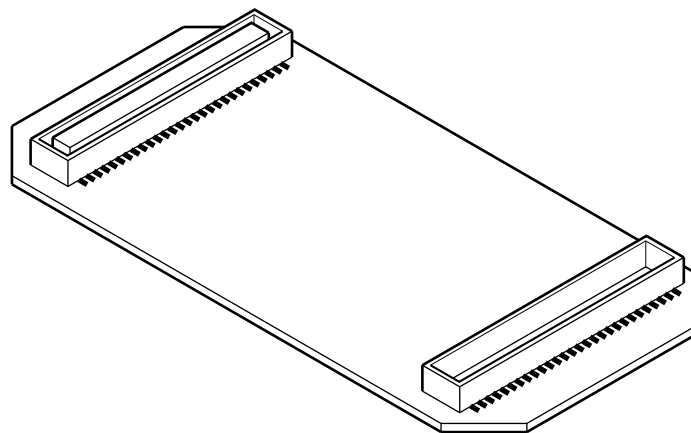

Figure 3: Extension Card
5. Extension Card part no G5ETC001 figure 3